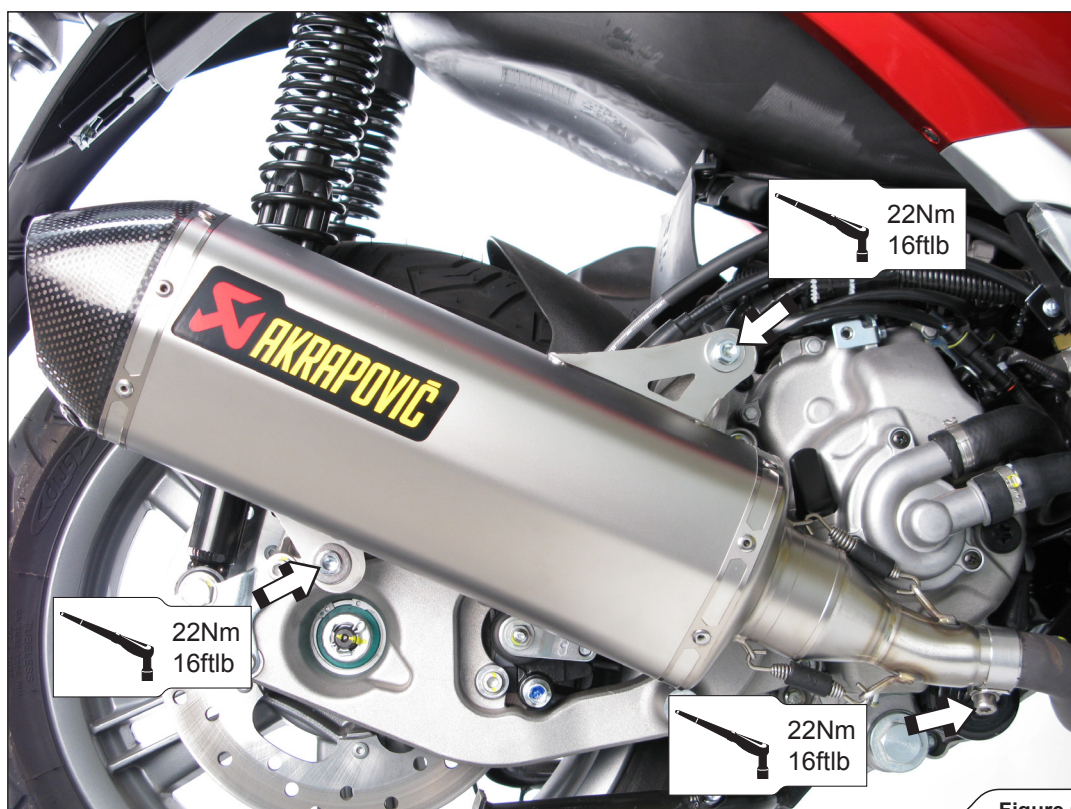

Figure 6
3. Position the muffler correctly, slide it onto the stock header pipe. Align the muffler in respect to the scooter and tighten the muffler, using Akrapovič bolts, washers and aluminium distance bush. Tighten the metal clamp at the Akrapovič link pipe/stock header pipe joint to a specified torque (**Figure 6, 7**).